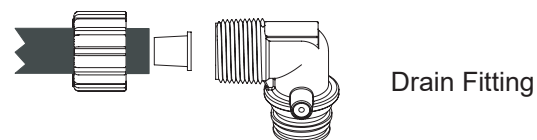

figure 1
- Connect the drain on the softener to an approved air gap drain. When using 5/8" poly tubing for the drain line, connect the nut to the line as illustrated in *figure 1*. If copper line is used, be sure to pre-sweat and cool pipe and fittings before attaching to drain fitting on unit.
11. When the control has reached the service position, fill the brine tank with salt. Open the outlet handle on bypass (see page 8, figure 1).